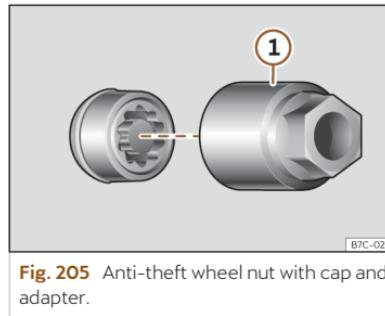

Fig. 205 Anti-theft wheel nut with cap and adapter.
- Insert the special adapter >>> Fig. 205 ① (vehicle tools >>> page 305) onto the anti-theft wheel nut and push it on as far as it will go.